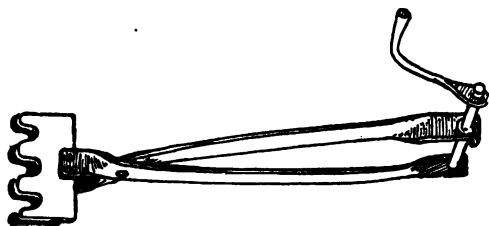

Fig. 44. Handy Spring Tool for Ford Assembly
**Handy Spring Tool.** In the Ford transmission band assembly there are three springs, which it is difficult to assemble because of the trouble in holding so many things at once. To eliminate this trouble the tool shown in Fig. 44 can be constructed, this being made from flat bar stock. The handles, if they could be called that, are pivoted together and carry at one end a kind of flat jaw with three